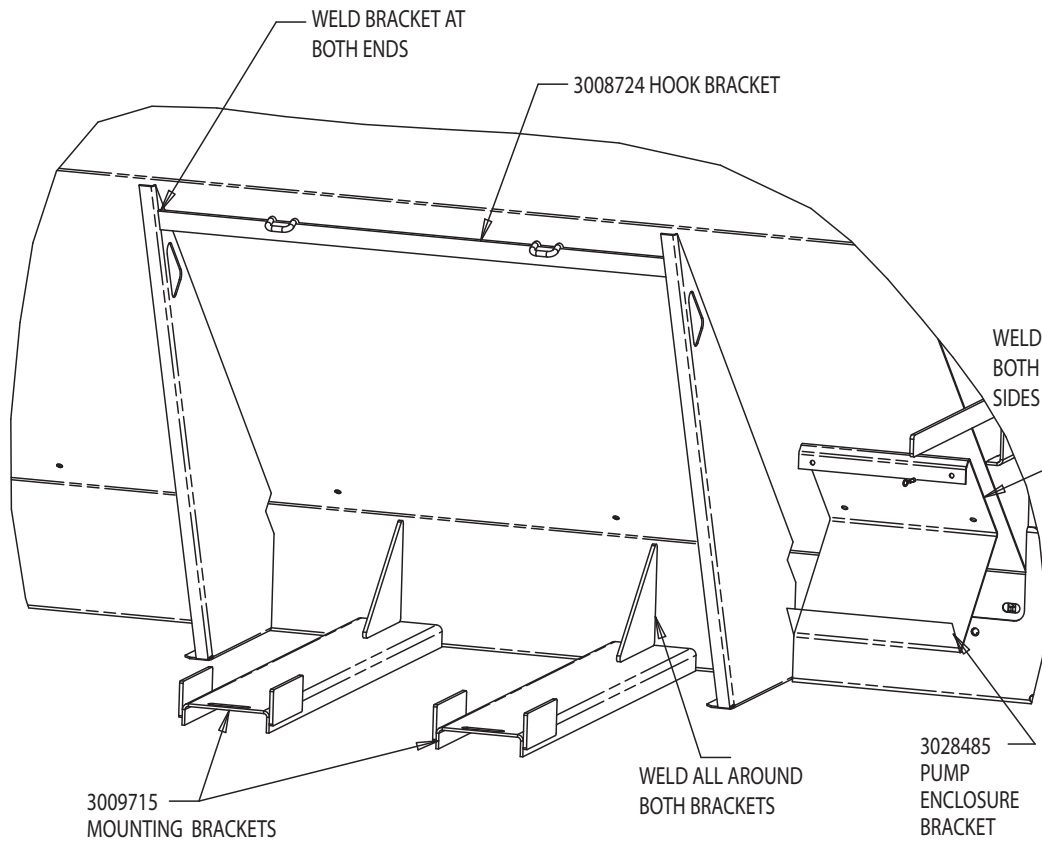

Fig. 1 Bracket Installation
- 1.** Position pump enclosure bracket (#3028485) (see fig. 1) and pump enclosure (#WSE39) (see fig. 2) at left rear corner of hopper spreader, (see figs. 1 & 2). Make sure pump enclosure and bracket do not interfere with operation of other accessories such as the feedgate lever, engine hood, etc.
- 3.** Position reservoir (#WSE26), tie bar (#3008589) (see figs. 1 & 2) and mounting brackets (#3009715) on left side of hopper between side gussets. Make sure reservoir is positioned for adequate plumbing clearance and to remove filler/breather cap. Check hopper size and style. Tank may not fit on some hoppers.